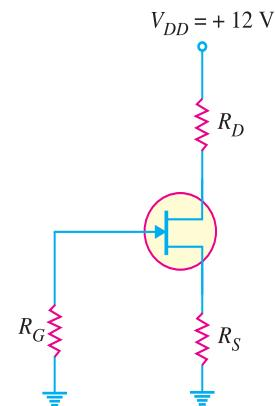

Fig. 19.22
**Example 19.16.** Select resistor values in Fig. 19.22 to set up an approximate midpoint bias. The JFET parameters are :  $I_{DSS} = 15 \text{ mA}$  and  $V_{GS(\text{off})} = -8 \text{ V}$ . The voltage  $V_D$  should be 6V (one-half of  $V_{DD}$ ).